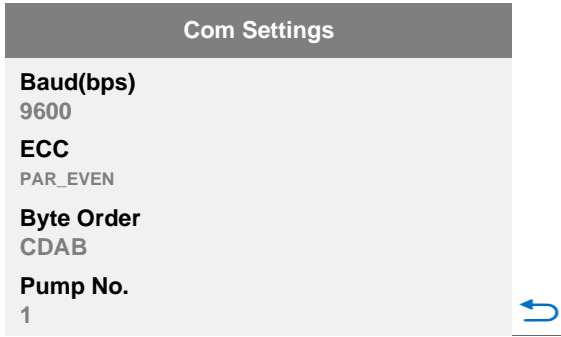

Figure 29 Communication Settings
- **Communication settings** - Sets the parameters of RS485 communication, as shown in Figure 29.